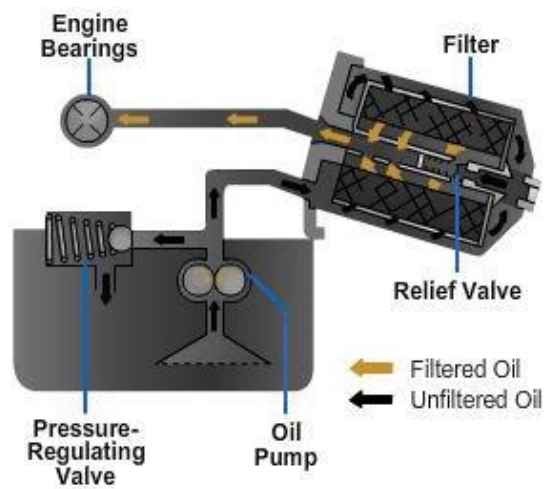

Figure 6-20 – Full flow oil system.
- The full-flow system is the most common (*Figure 6-20*). All oil in a full-flow system is circulated through the filter before it reaches the engine. When a full-flow system is used, it is necessary to incorporate a bypass valve in the oil filter to allow the oil to circulate through the system without passing through the element in the event that it becomes clogged. This prevents the oil supply to the engine from being cut off.